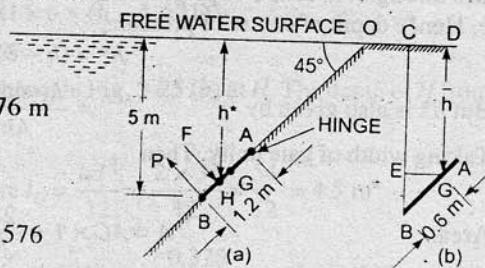

Fig. 3.23
**Problem 3.18** An inclined rectangular sluice gate AB 1.2 m by 5 m size as shown in Fig. 3.23 is installed to controlled the discharge of water. The end A is hinged. Determine the force normal to the gate applied at B to open it. (A.M.I.E., Summer, 1980)
But from Fig. 3.23 (a),  $\frac{h^*}{OH} = \sin 45^\circ$